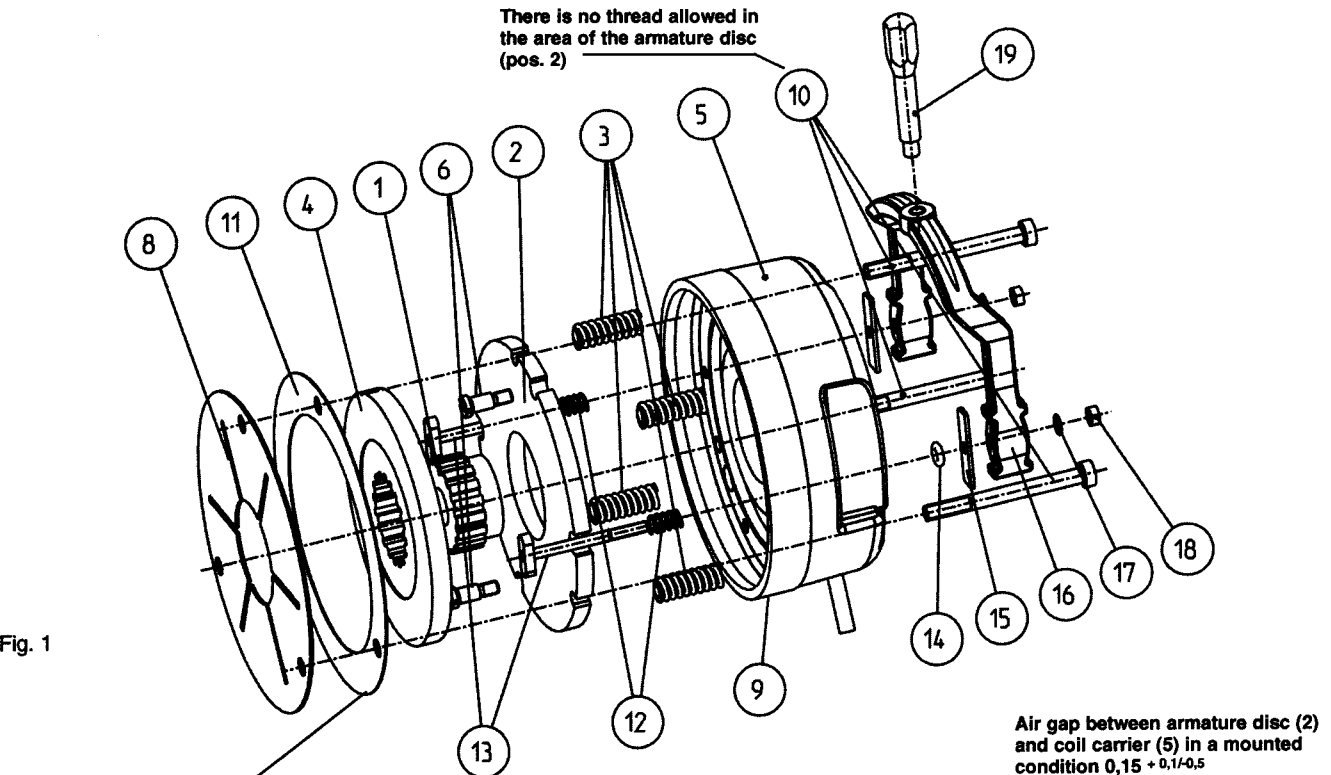

Fig. 1
- The positioning tolerance of the thread for the cap screws (10) must not exceed 0,2 mm.
- Shaft end has to be square with respect to the screw-on or braking surface acc. to DIN 42955. Out of square results in lower braking torque, permanent friction of the rotor (4) and overheating.
- The fits from hub (1) and shaft are to be selected in such a way that a widening of the toothing of the hub is not possible. A widening of the toothing causes a clamping of the rotor (4) at the hub (1) and following a functional problem of the brake, (recommended hub-shaft fit H7/k6).
- Rotor (4) and friction disc (8) must be free of oil and grease.
1. Assembly (Figure 1)
3.* Mounting the hand release (see Figure 1)